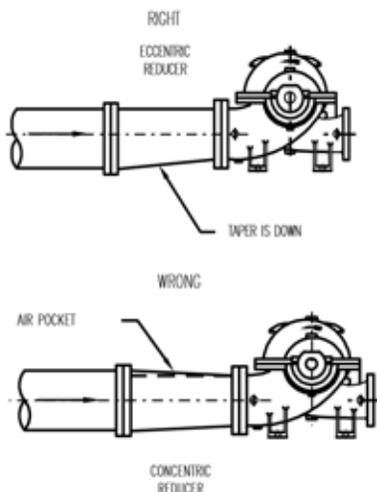

Fig. 4 Suction piping eccentric vs. concentric
- Use an eccentric reducer, with the eccentric side down, as shown in Fig. 4 when reducing pipe diameter to the diameter of the pump suction opening.